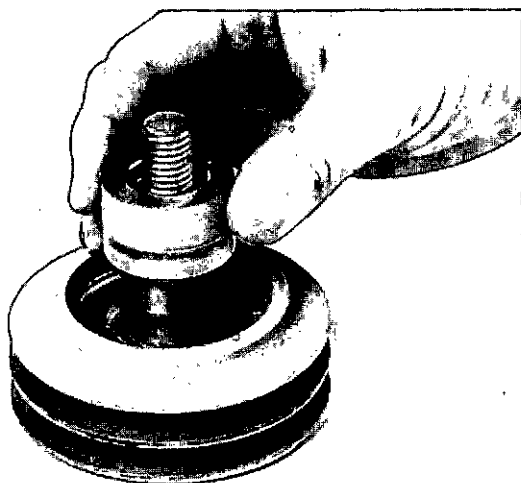

Fig. 8-45 (N10886). Install The Spacer Onto The Idler Shaft.
7. Install the spacer on the shaft. Push the spacer over the O-ring until the spacer is against the bearing, Fig. 8-45.